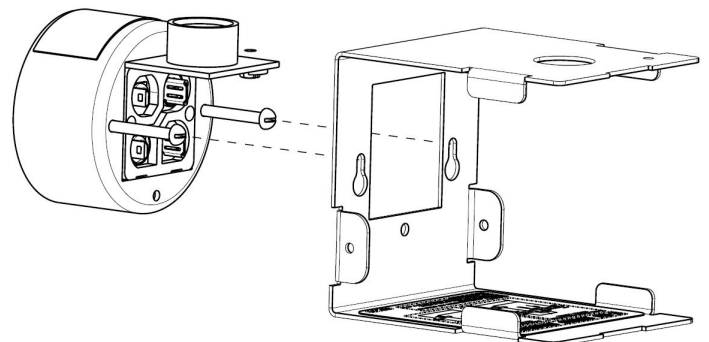

Figure 4
4. Align the e-11M bracket with LWCO, see **Figure 4**, and secure it by tightening the two screws.
5. Align the e-11M bracket with LWCO, see **Figure 4**, and secure it by tightening the two screws.